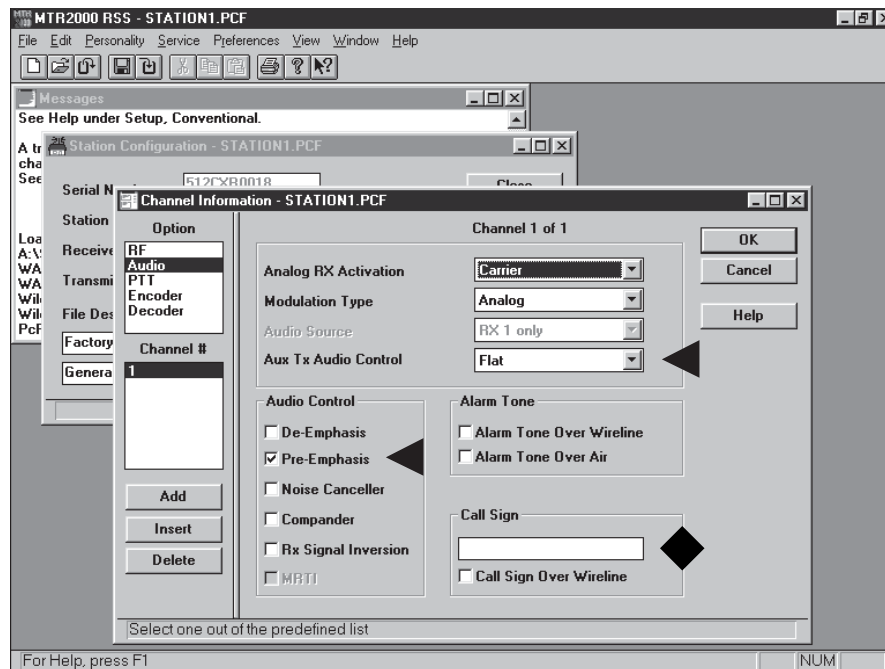

Fig. 5
9. In the upper left hand corner of the *Channel Information* window under **Option**, click on **Audio**. A window as shown in Fig. 5 will appear. Every option in this window must be set to match Fig. 5 exactly. **Alarm Tone** and **Call Sign** are the only options that may differ. The options in the Configuration window marked by the arrows (▶) are items of particular importance.